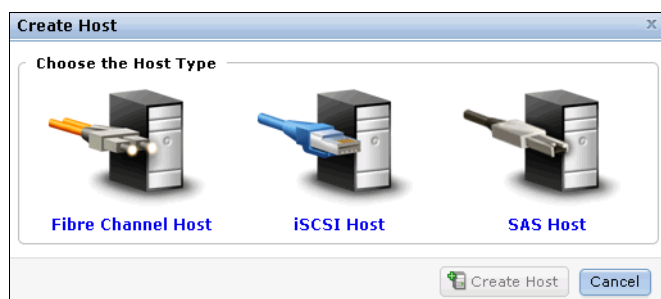

Figure 4-3 Create SAS host
1. Click **SAS Host**. The Create Host window opens, as shown in Figure 4-3